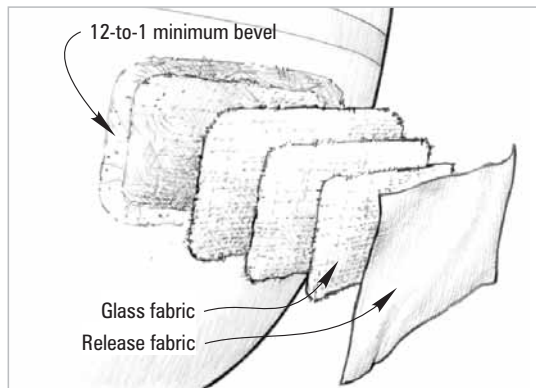

Figure 4-5 Cut an appropriate number of pieces of fiberglass fabric. The first piece should match the outside edge of the bevel.
1. Cut an appropriate number of pieces of fiberglass fabric the same shape as the hole. The first piece should match the outside edge of the bevel, with subsequent pieces gradually getting smaller. The final layer should match the inside edge of the bevel at the hole. The combined thickness of the layers should be slightly thinner than the original panel to allow for shaping and fairing (*Figure 4-5*).